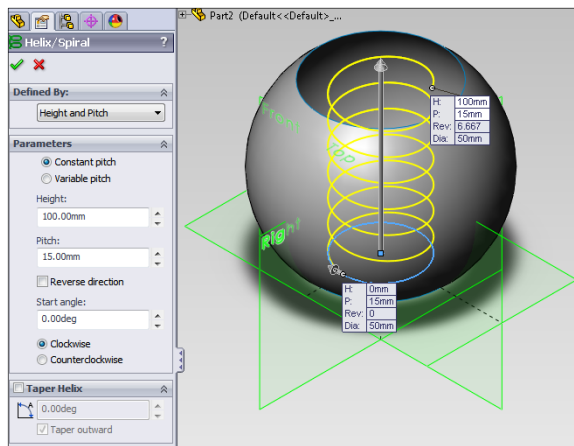

Fig.5
4. Create **Helix curve**  with base in **Top** plane: Fig.5